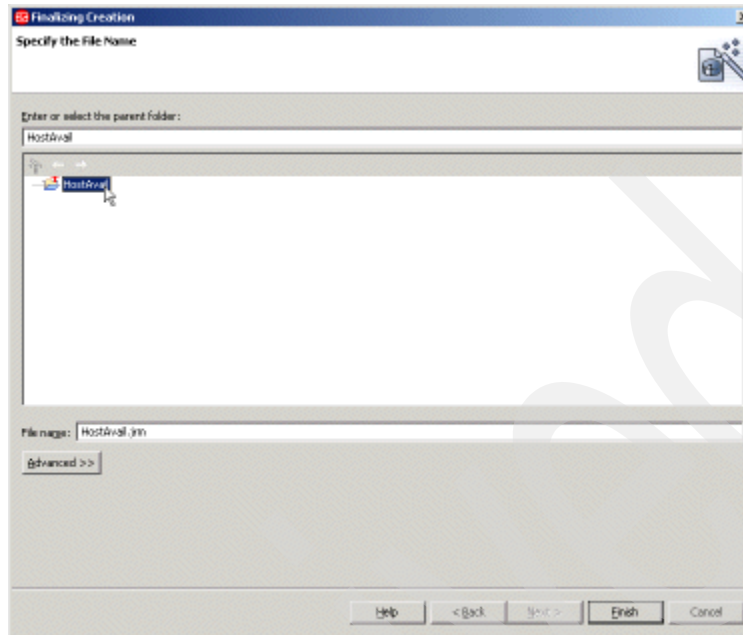

Figure 9-50 Selecting the project folder
21. Select the HostAvail project folder. The Finish button is then enabled, as shown in Figure 9-50 on page 471.